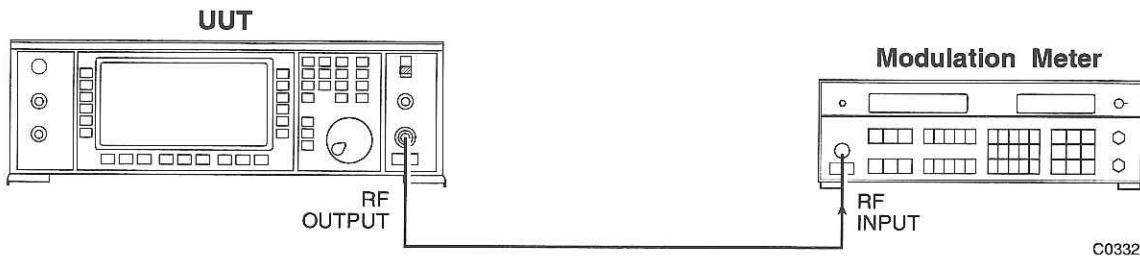

Fig. A-2 Equipment configuration for AM DC offset
| Fig. A-2 Equipment configuration for AM DC offset | App. A-4 |
- (a) Connect the RF OUTPUT socket on the UUT to the modulation meter RF input. Equipment configuration is shown in Fig. A-2.